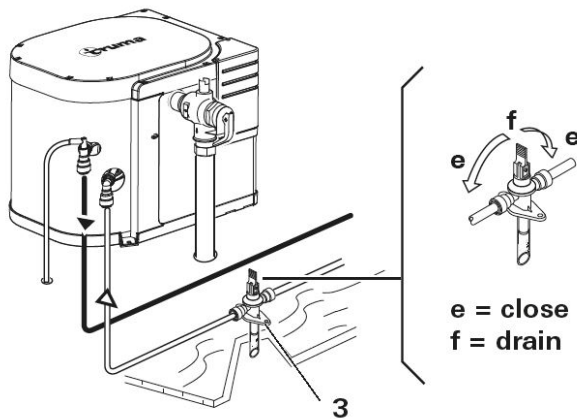

Fig. 2
- Close drain valve (Fig. 2 - 3). Lever in the “e” position (close).
- Open drain valve (Fig.2 - 3). Lever in the "f" position (drain). The water heater is now drained directly to the outside via the drain valve (3).
- The drain valve (Fig. 2 - 3) and the P&T safety valve (Fig. 2 - 4) are to be operated regularly to remove lime deposits and to ensure that they are not blocked. Frequency: every 6 months.